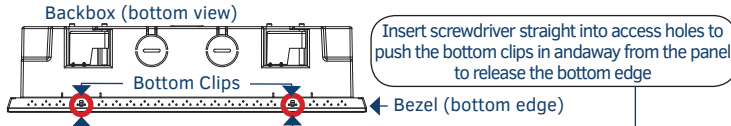

FIG. 6 MD-1002/BACKBOX ASSEMBLY - BOTTOM VIEW
1. With a small flathead screwdriver, carefully press straight into the access holes on the bottom of the bezel (near the center of the bottom tabs) to disconnect the two bottom clips (FIG. 6):